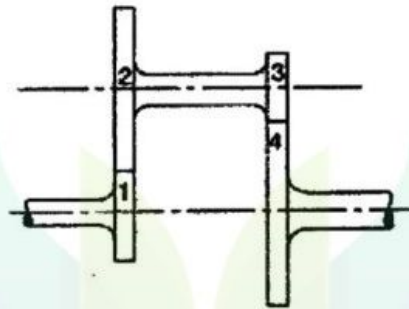

Fig. 16(a)(ii)
16. (a) (i) Construct the profile of a cam operating a knife-edge follower having a lift of 30 mm. The cam raises the follower with SHM for  $150^\circ$  of the rotation followed by a period of dwell for  $60^\circ$ . The follower descends for the next  $100^\circ$  rotation of the cam with uniform velocity, again followed by a dwell period. The cam rotates at a uniform velocity of 120 rpm and has the least radius of 20 mm. (8)
- (ii) A reverted gear train shown in Fig. 16(a)(ii) is used to provide a speed ratio of 10. The module of gears 1 and 2 is 3.2 mm and of gears 3 and 4 is 2 mm. Determine suitable number of teeth for each gear. No gear is to have less than 20 teeth. The centre distance between shafts is 160 mm. (7)